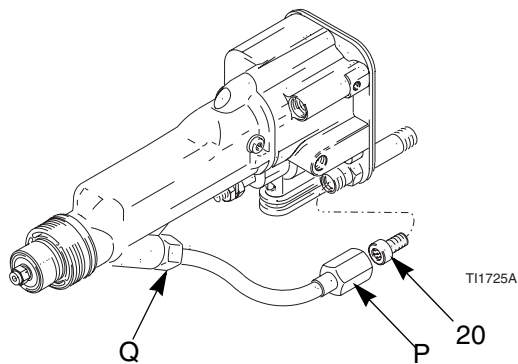

Fig. 17. Clean the Inline Fluid Filter
6. Remove the bottom fluid tube fitting (P) and fluid filter (20). See FIG. 17.. Clean the filter in compatible solvent.
7. Reinstall the filter (20) and fitting (P). Do not over-tighten the fitting, and make sure the top fitting (Q) remains tight.